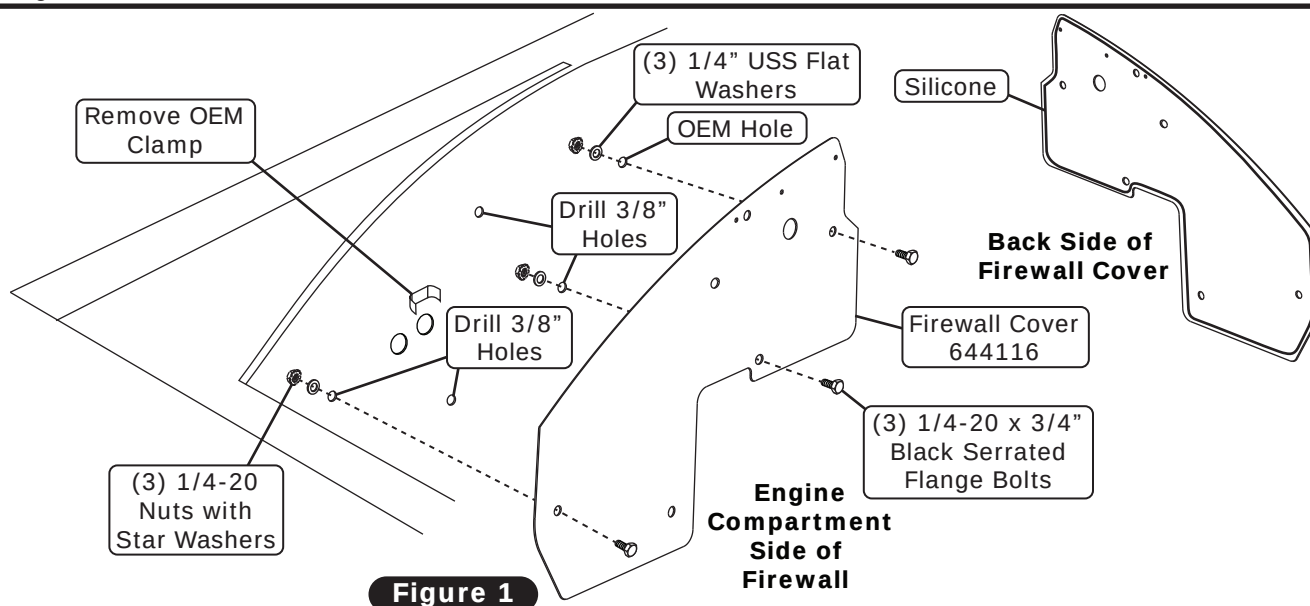

Figure 1
3. Apply a 1/4" bead of silicone around the back side of the firewall cover as shown in Figure 1, below.
4. From the engine compartment, install the firewall cover onto the firewall, and secure it using (3) 1/4-20 x 3/4" black serrated flange bolts, (6) 1/4" flat washers and (3) 1/4-20 nuts with star washers as shown in Figure 1, below.